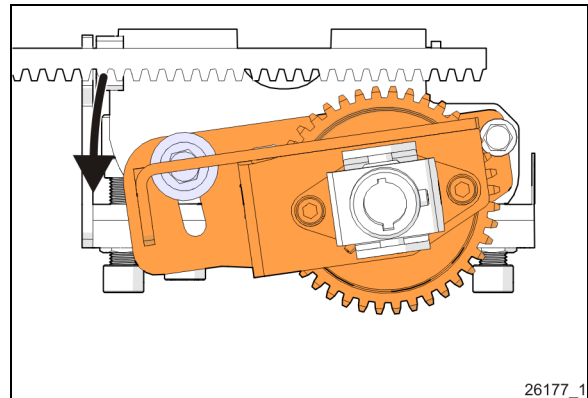

FIGURE 36: PINION ASSEMBLY ROTATION
2. Rotate pinion assembly down. (Figure 36)